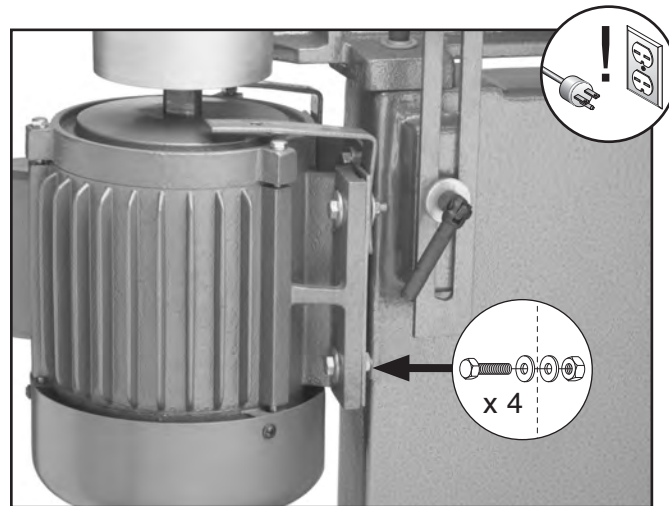

Figure 70. Location of motor mount fasteners.
2. Loosen (4) motor mount hex bolts and hex nuts shown in **Figure 70**.